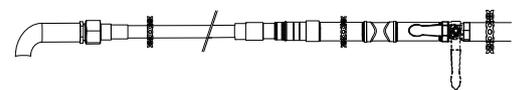

Figure 3
8. If igniter does not light burner, use a lit match secured with the Lighting Rod (included with the Barbecue) to light burners. Access the burners as (Figures 3 and 4). Position lit match near side of burner (Figures 3 and 4).